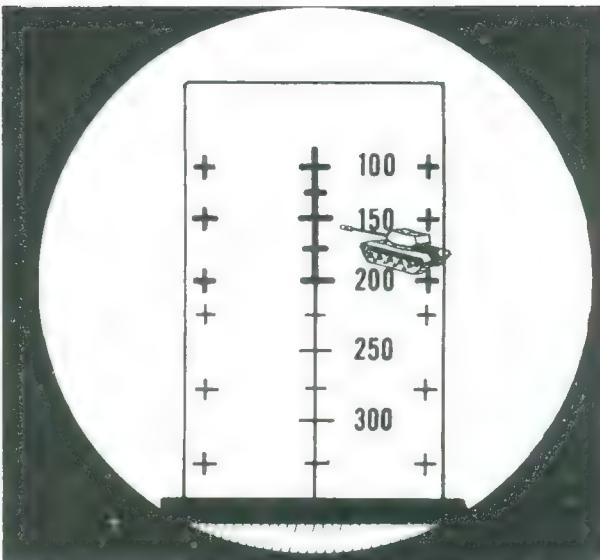
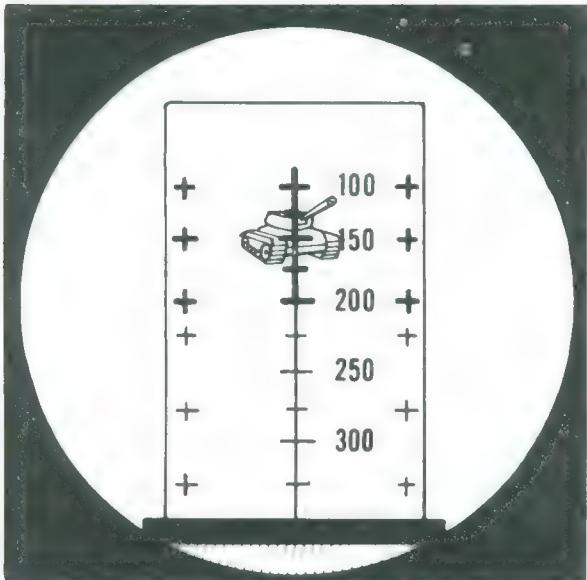

Figure 19. Target moving at an angle away from gunner, 175 meters, 20 miles per hour, at an angle of 45° or more (more side than end showing).
Figure 18. Target moving toward gunner, 150 meters, at an angle of 45° or less (more front than side visible).
(4) *Targets moving at an angle toward or away from the gunner.* When the target is moving toward the gunner at an angle where more of the front of the target is visible than the side (0° - 45°) the gunner should estimate the range to the target and place that range on the target's center of mass (fig. 18). If the target is moving at an angle where there is more of the side visible than front (45° - 90°) the gunner would estimate the range, estimate the speed it appears to be moving, and apply one-half the lead to the center of mass (fig. 19).